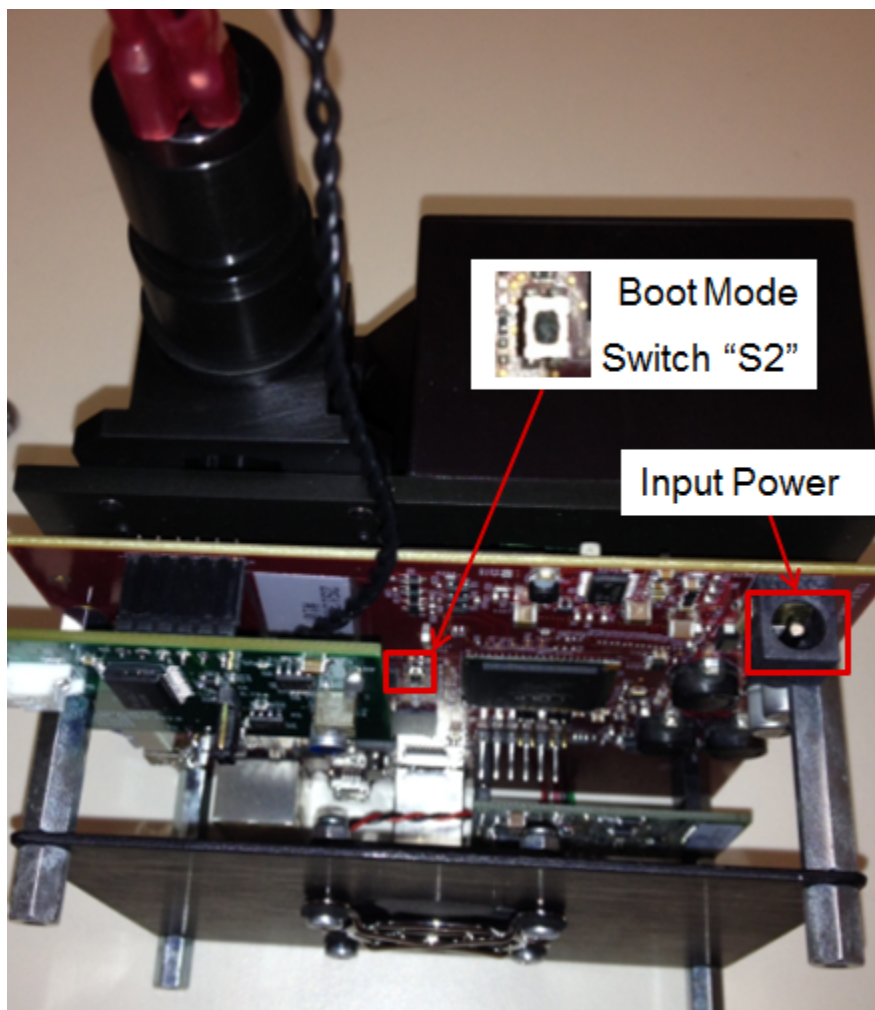

Figure C-2. Boot Switch Location
3. Press and hold down switch S2 (shown in Figure C-2) while plugging in the power cable. Do not use any metal tools or objects as these could short potentially damage the electronics if misplaced.